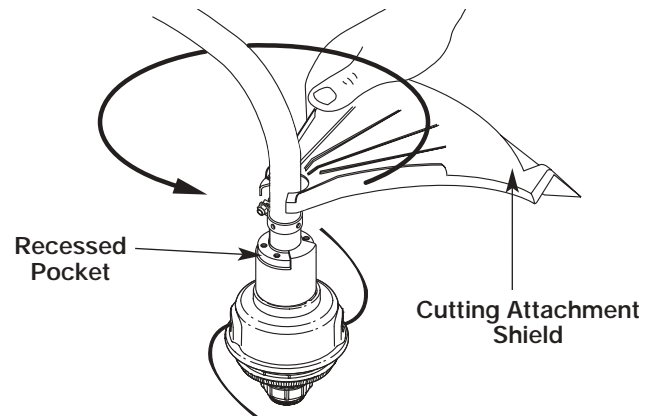

Fig. 9
2. Push the cutting attachment shield down to the top of the cutting attachment assembly and then rotate the cutting attachment shield until the screw holes align and the guard fits into the recessed pocket (Fig. 9).